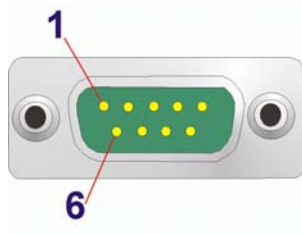

Figure 3-34: Serial Port Pinouts
- CN Pinouts:** See **Table 3-37** and **Figure 3-34**